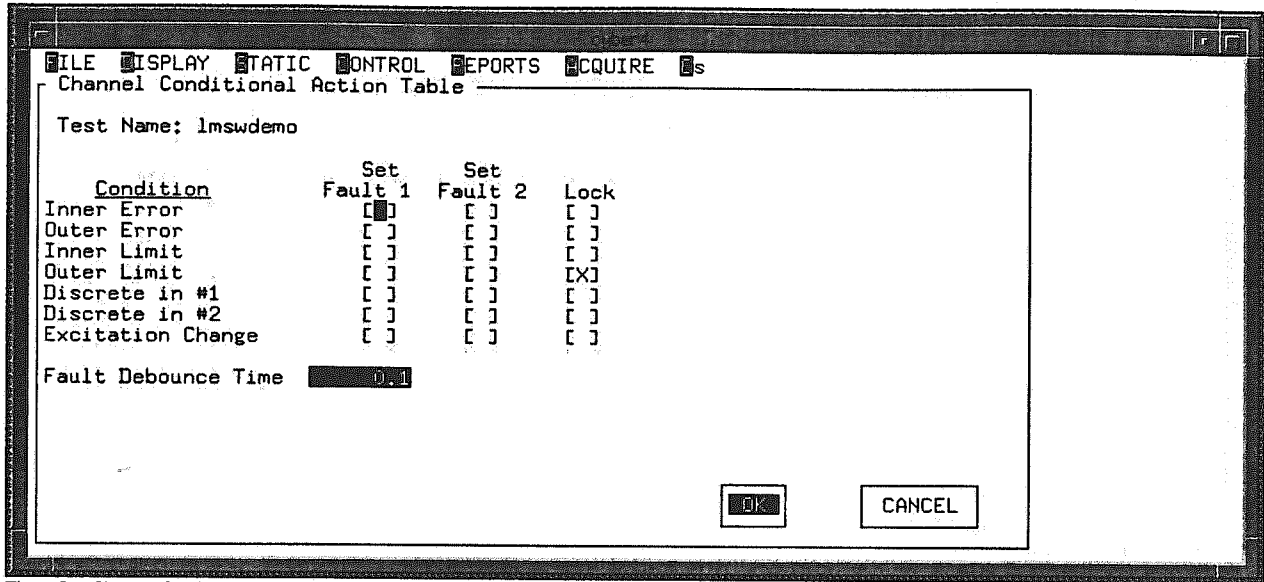

Figure 5-1. Channel Conditional Action Table Screen
- Step 1:** Select the Display menu, Channel Conditional Actions option. The Channel Conditional Action Table screen, **Figure 5-1**, is displayed.